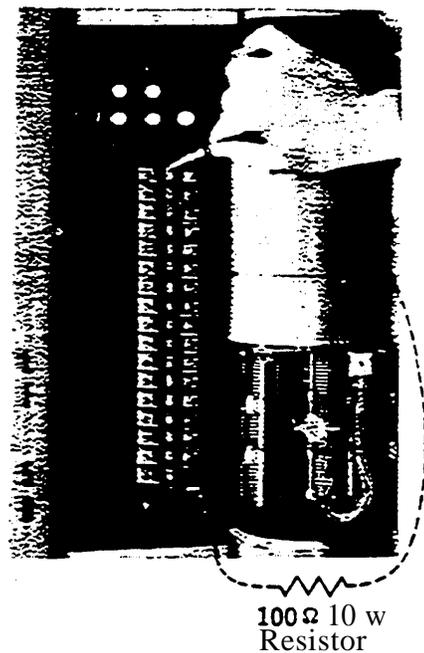

Figure 7. View of a **Linefinder** Self Fuse Alarm Strip to Show Placement of Resistance Cord.
3.03 Place battery from load side of an alarm fuse to each alarm tell-tale strip or terminal Use a resistance cord (See Figure 7).